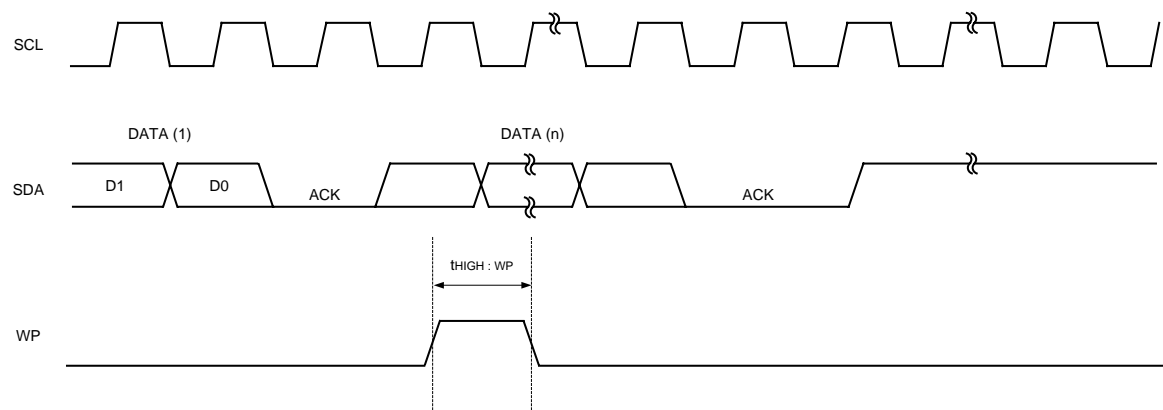

Fig.6(b) WP TIMING OF THE WRITE CANCEL OPERATION
- For the WRITE operation, WP must be "LOW" during the period of time from the rising edge of the clock which takes in D0 of first byte until the end of t_{WR} . (See Fig.6 (a))